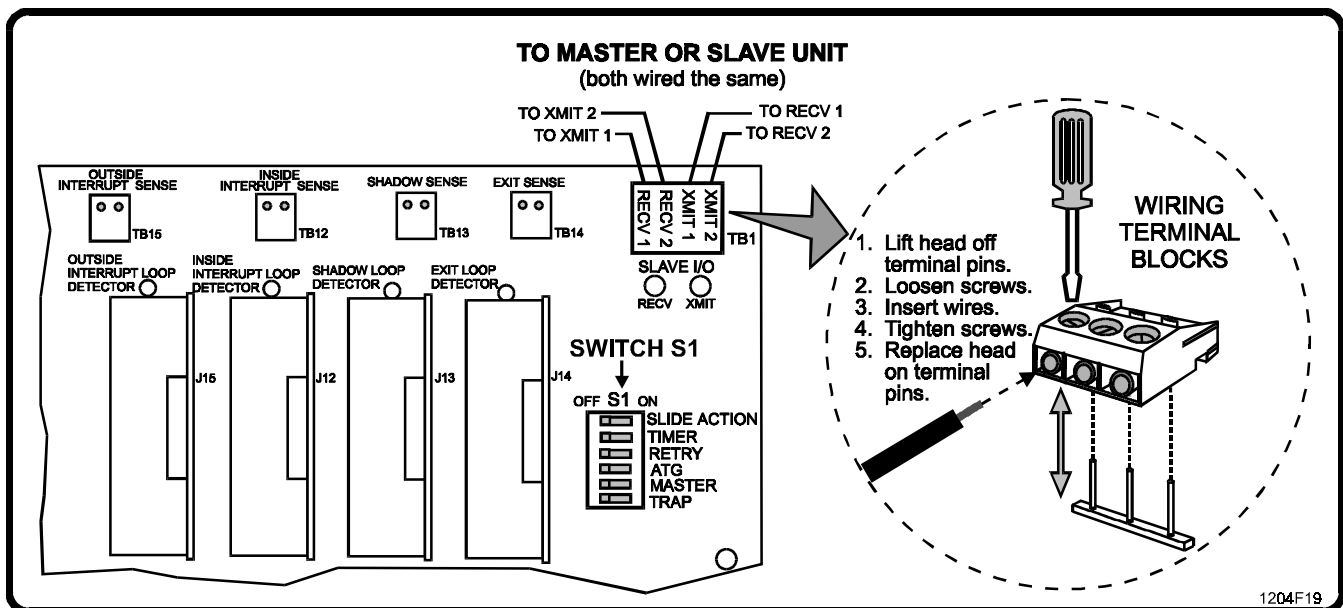

Figure 15. Master/Slave Connection and Switch S1 Location.
- Master/Slave connections are made through the SLAVE I/O terminal block (TB1), located at the top right corner of the gate operator controller board (see Figure 15, below).
2. Connect Master and Slave units as described and shown in paragraph C and Figure 15, above.